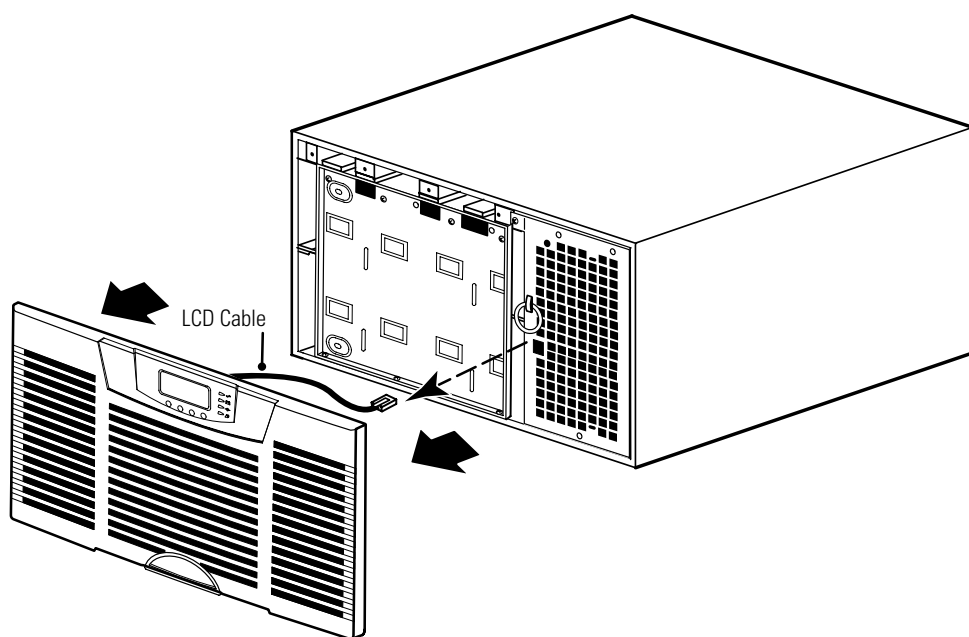

Figure 50. Removing the UPS Front Cover
2. Remove the UPS front cover and set it aside (see Figure 50):